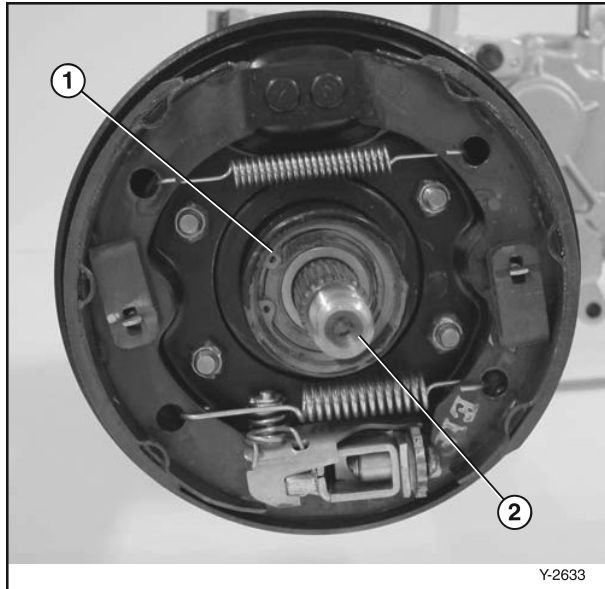

Figure 6-29
3. Remove the snap ring (**Figure 6-29, (1)**).
4. Pull the axle with the bearing (**Figure 6-29, (2)**) straight out of the axle tube.